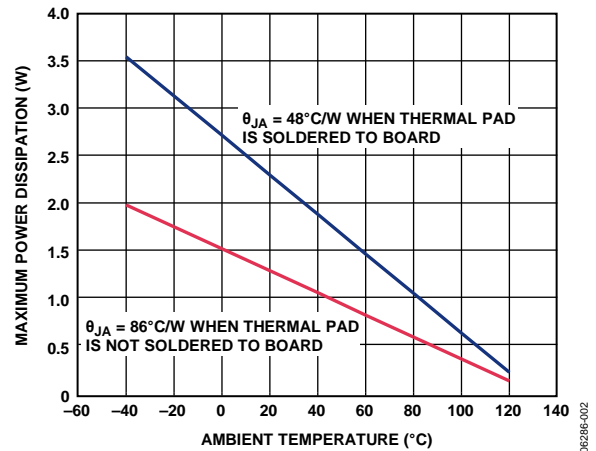

Figure 2. Maximum Power Dissipation vs. Ambient Temperature
Power Dissipation	See Figure 2
The maximum safe power dissipation for the AD8224 is limited by the associated rise in junction temperature (TJ) on the die. At approximately 130°C, which is the glass transition temperature, the plastic changes its properties. Even temporarily exceeding this temperature limit may change the stresses that the package exerts on the die, permanently shifting the parametric performance of the amplifiers. Exceeding a temperature of 130°C for an extended period can result in a loss of functionality. Figure 2 shows the maximum safe power dissipation in the package vs. the ambient temperature for the LFCSP on a 4-layer JEDEC standard board.